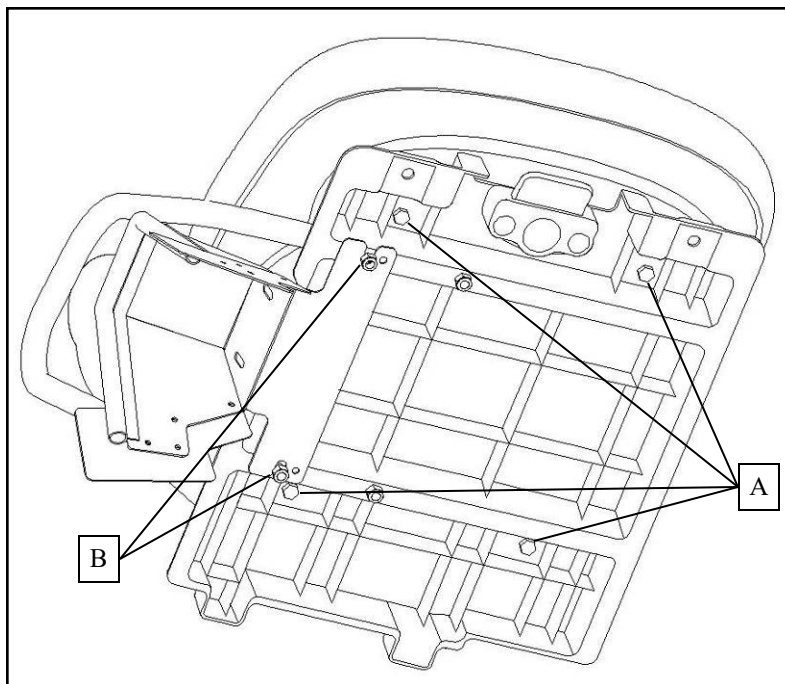

Figure 12.1 Fuel Filler Installation
12.1 Remove and save the four bolts (A) holding the passenger seat to the plastic base. See Figure 12.1. Remove one of the two nuts (B) from the outer bolts. The other can be loosened so that the fuel filler slides underneath it. Install the fuel filler seal on the bottom of the plastic and loosely re-install the nut that was removed. Place the plastic seat base onto the vehicle and adjust the fuel filler seal front to back to be sure it is centered on the cutout in the door skin. Tighten the two outer bolts (B) and re-install the four seat bolts (A). The fuel filler can also be adjusted up and down by altering the two bolts located inside the filler next to the gas cap.